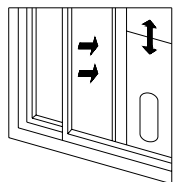

Fig.4
1. Make the window half open; put the seal-plate into window, either in vertical or horizontal position. (Fig.4,5)